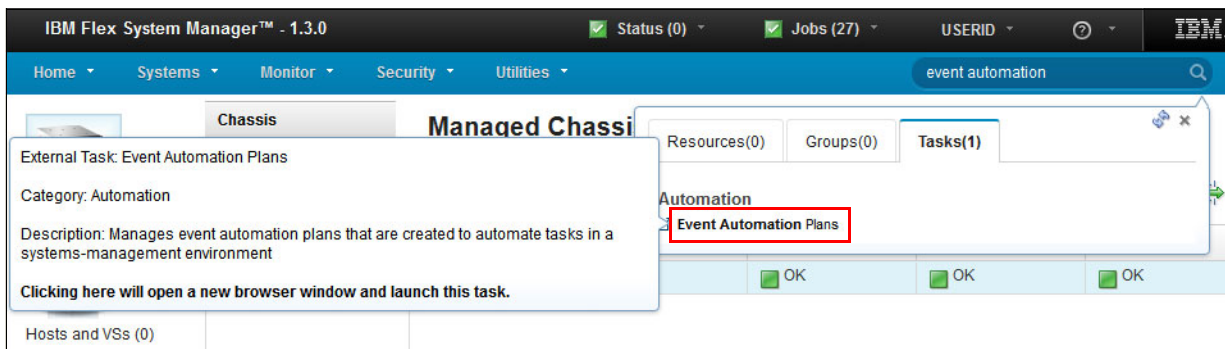

Figure 7-15 Launching Event Automation Plans task
1. Type event automation in the search field of the FSM Explorer and click **Event Automation Plans** in the Tasks pane, as shown in Figure 7-15.